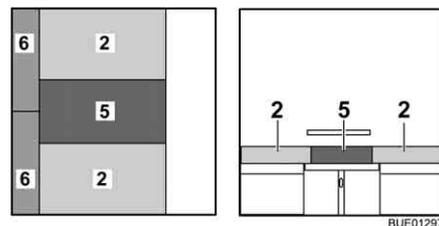

Fig. 114 After conversion
- Insert the additional cushion (Fig. 114,5) onto the table between the seat cushions.
- Insert the additional cushions (Fig. 114,6) between the seat cushions and the wall.